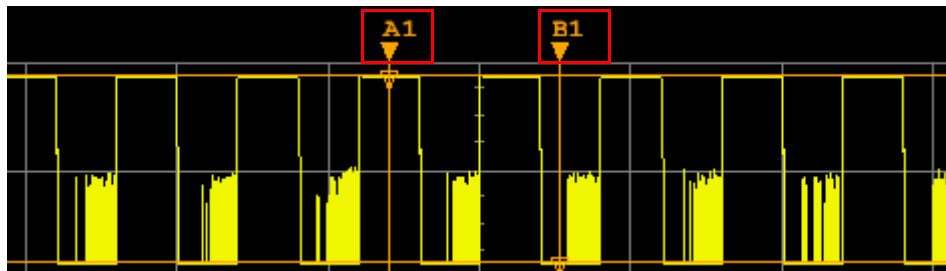

Figure 2-112 Marker labels on the graphical interface
- 3 To change the position of the marker, turn , or select the marker label on the graphical interface and drag the marker to the desired position as shown in Figure 2-112.